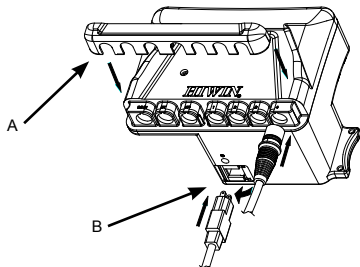

Fig. 3
6. Installation of LAK4N Fixer: Vertically and upwardly remove a fixer (A) from LAK4N controller. After inserting connectors of an actuator and key box, vertically insert back a fixer (Fig. 3) along the arrow direction. Before inserting main power cord, rotate out the locker (B) along the arrow direction to insert power cord (Fig. 1) and then pull it back (Fig. 4) along the arrow direction.